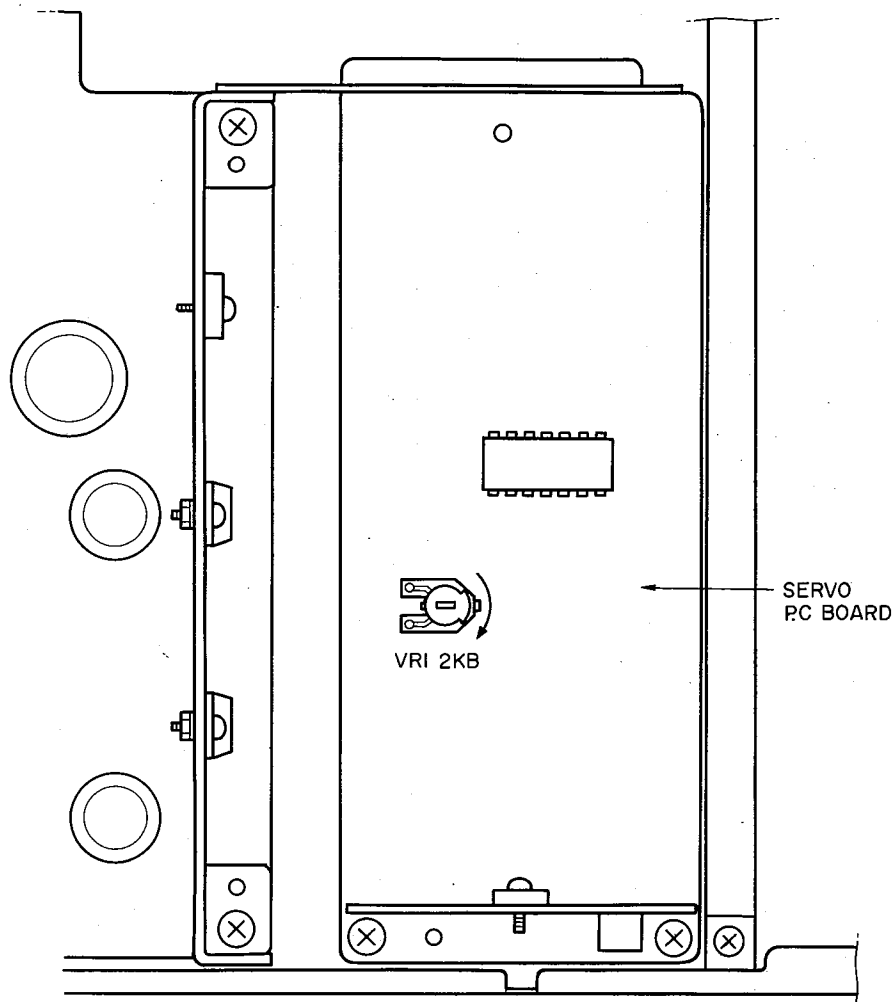

Fig. 20 Tape Speed Adjustment
7. TAPE SPEED ADJUSTMENT (Refer to Fig. 20)